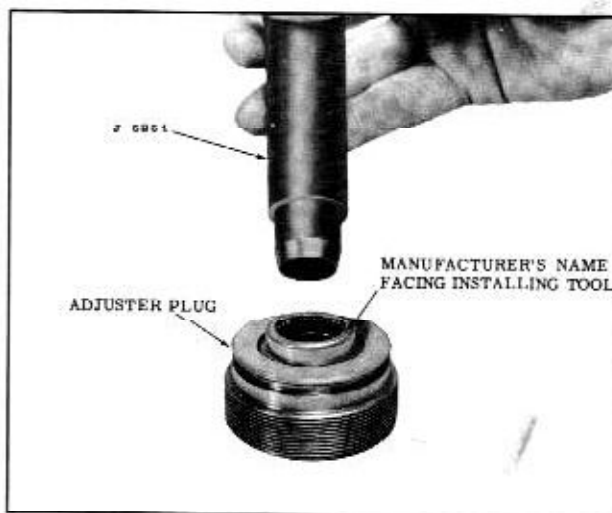

Fig. 4-12 Installing Bearing
1. If the needle bearing was removed, place new needle bearing over Tool J-5254 with the manufacturer's identification against the tool and drive or press bearing until it is flush with the surface of the seal bore. (Fig. 4-12)